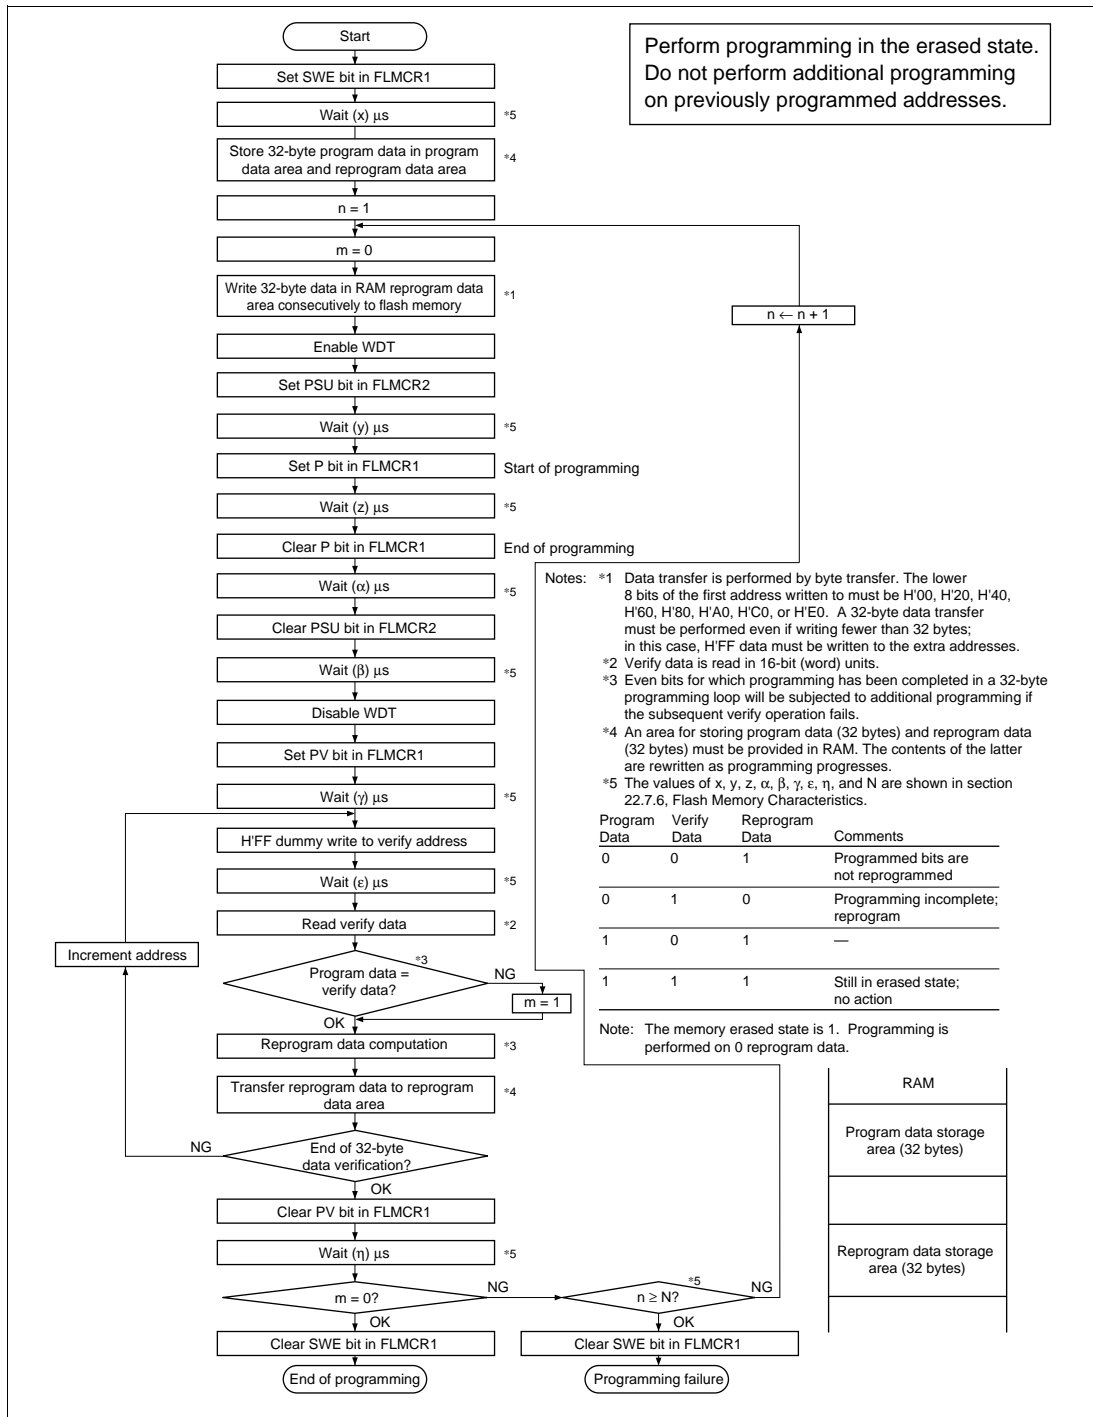

Figure 19-19 Program/Program-Verify Flowchart
Follow the procedure shown in the program/program-verify flowchart in figure 19-19 to write data or programs to flash memory. Performing program operations according to this flowchart will enable data or programs to be written to flash memory without subjecting the device to voltage stress or sacrificing program data reliability. Programming should be carried out 32 bytes at a time.
After the elapse of a given programming time, the programming mode is exited (the P bit in FLMCR1 is cleared to 0, then the PSU bit in FLMCR2 is cleared to 0 at least (α) μ s later). Next, the watchdog timer is cleared after the elapse of (β) μ s or more, and the operating mode is switched to program-verify mode by setting the PV bit in FLMCR1. Before reading in program-verify mode, a dummy write of H'FF data should be made to the addresses to be read. The dummy write should be executed after the elapse of (γ) μ s or more. When the flash memory is read in this state (verify data is read in 16-bit units), the data at the latched address is read. Wait at least (ϵ) μ s after the dummy write before performing this read operation. Next, the originally written data is compared with the verify data, and reprogram data is computed (see figure 19-19) and transferred to the reprogram data area. After 32 bytes of data have been verified, exit program-verify mode, wait for at least (η) μ s, then clear the SWE bit in FLMCR1 to 0. If reprogramming is necessary, set program mode again, and repeat the program/program-verify sequence as before. However, ensure that the program/program-verify sequence is not repeated more than (N) times on the same bits.